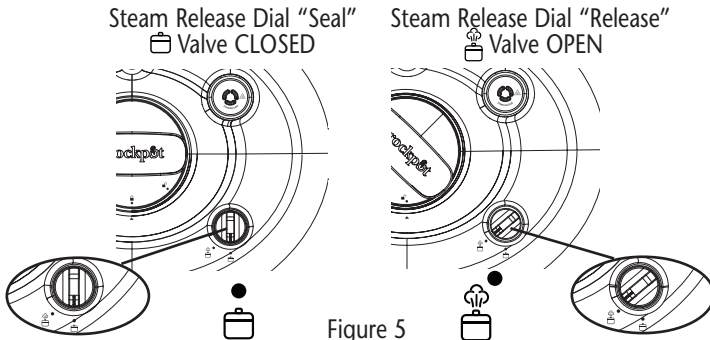

Figure 5
- A. Natural Pressure Release Method:** After cooking cycle is complete, let Cooker naturally release pressure through the Bobber Valve. Unit will gradually cool down on its own. Wait at least 10 minutes after cooking has completed, and then rotate the Steam Release Dial to the "Release"  position (see Figure 5). Do not place any part of your hand or body over the Steam Release Valve, as steam is very hot and can scald skin. The pressure has been released when steam is no longer escaping from the valve, the Bobber Valve has dropped completely, and the Lid opens freely with minimal force. This can take up to 10-20 minutes. **Never force the Lid open.**
- B. **Quick Pressure Release Method:** Rotate the Steam Release Dial located at the front of the Lid to the “Release” position (see Figure 5). Steam will release rapidly from the Steam Release Valve on the back of the Lid. Do not place any part of your hand or body on or over the Steam Release Valve, as steam is very hot and can scald skin.